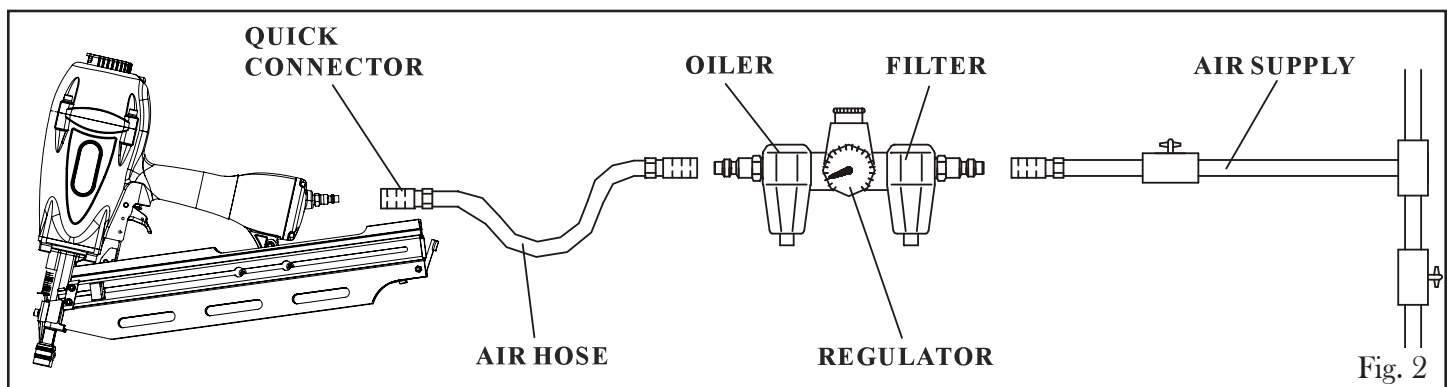

Fig. 2
CONNECTING THE TOOL TO AN AIR SUPPLY (Fig. 2)
Connect your tool to a properly installed compressed air supply. The working pressure of the air compressor must be regulated by a regulator to fit the operating pressure of your nailer (70-120 PSI). All components including hoses, connectors, filters, regulators, etc. must have a working pressure rating of at least 180 PSI. Refer to the diagram below (Fig. 2) for the recommended accessories and connection order.
1. Turn on the compressor on and set the regulator (Fig. 2 - Regulator) to the proper pressure within 70 to 120 PSI. The pressure can be adjusted later depending on firing depth, the length of nails and the hardness of the workpiece.